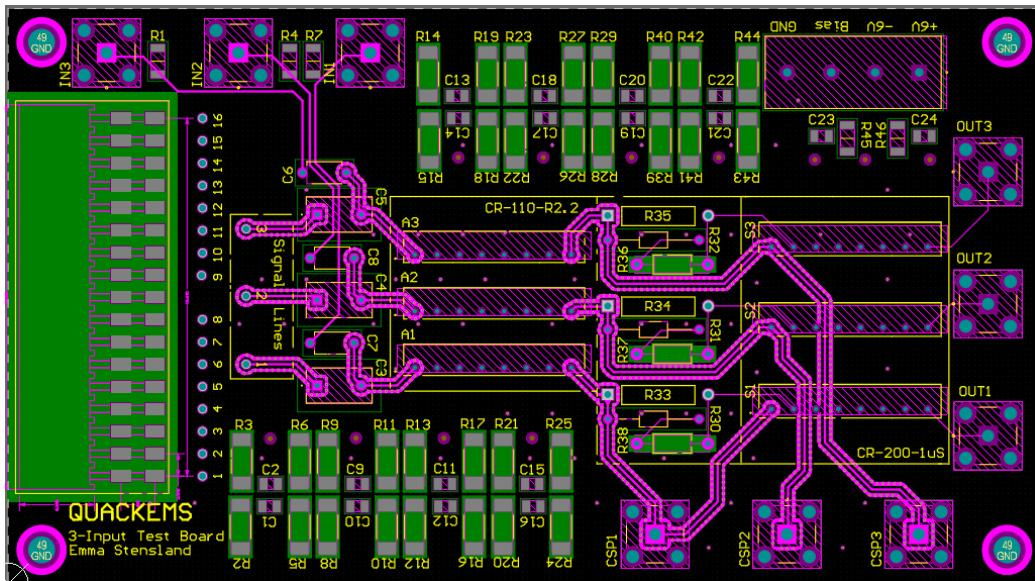

Figure 10: Layer 2 of 3-Input Test Board
2. Electrically Shielded I/O Signals of Preamp (Fig. 10)